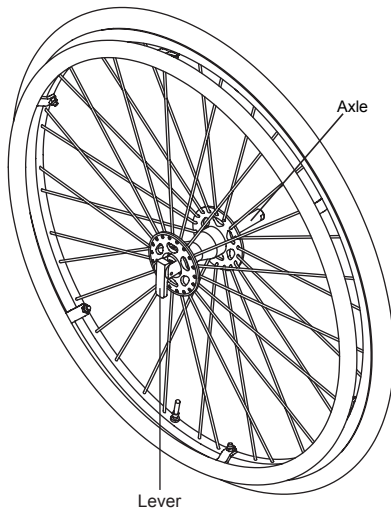

Figure 119
1. Unlock the lever on the quad release axle. See Figure 119.
1. Unlock lever on quad release axle. See Figure 119.